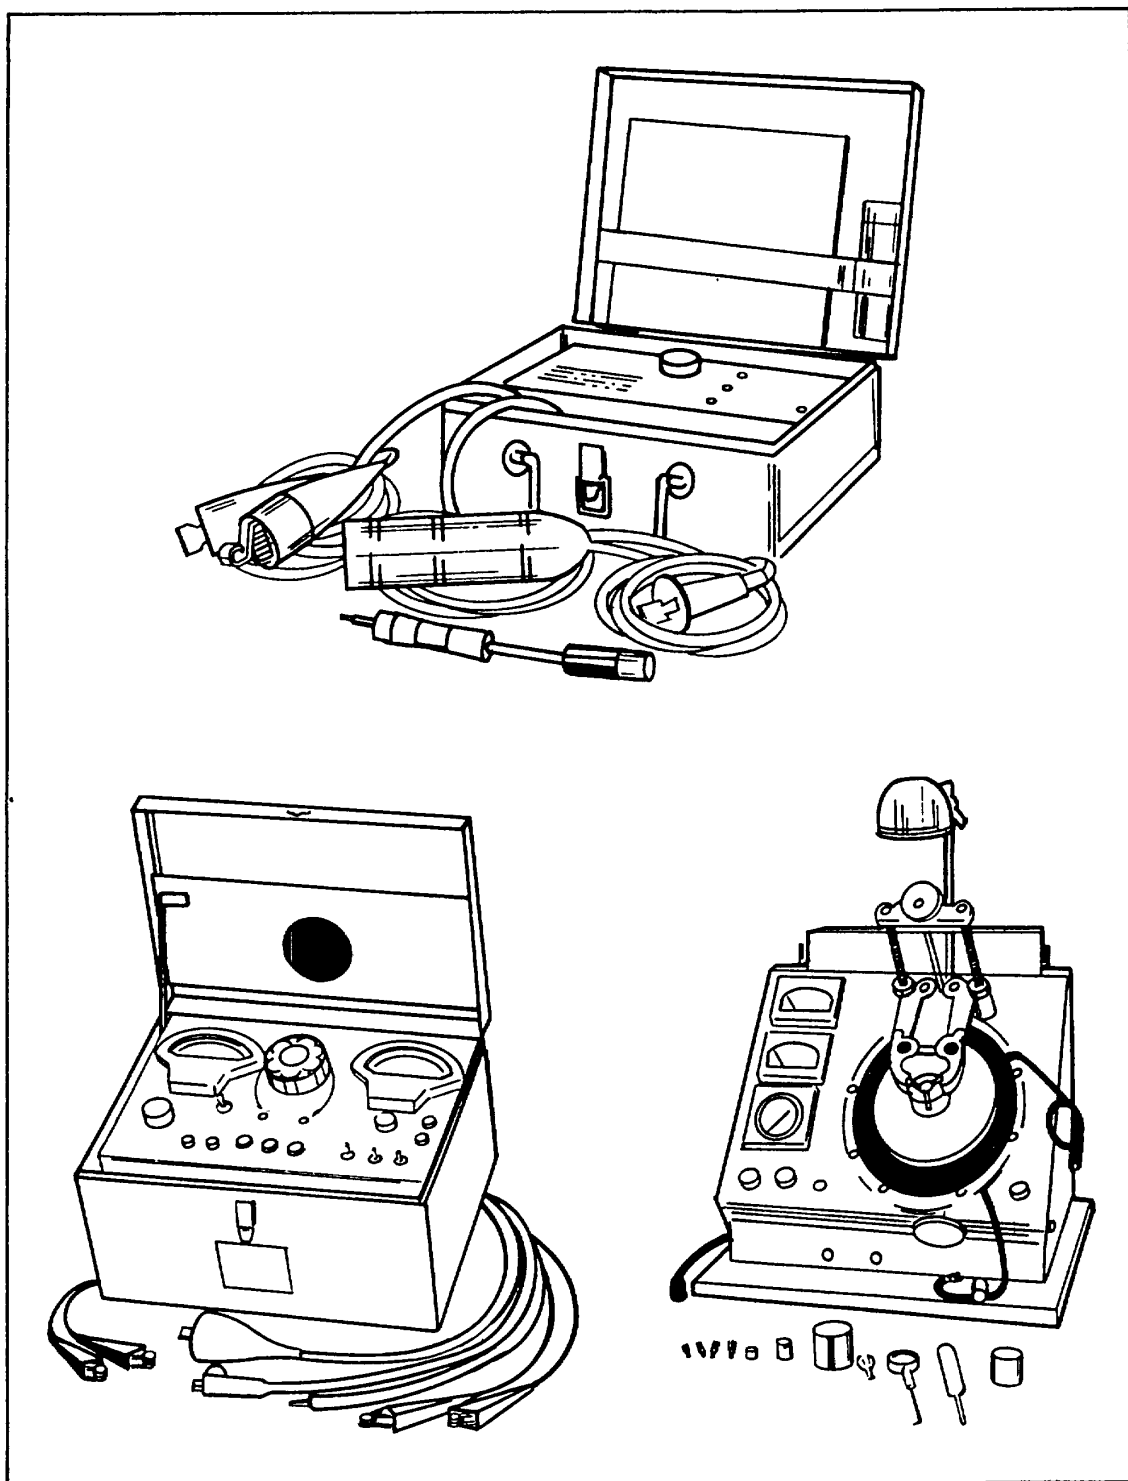

Figure 3-1. Test Equipment
**3-4.** The test equipment listed in Table 3-1 and illustrated in figure 3-1 will support all test procedures